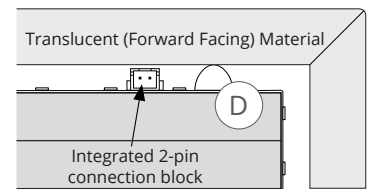
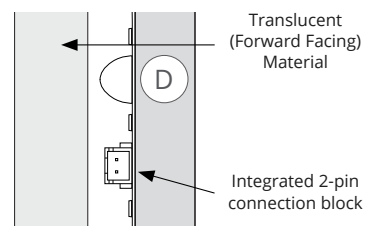

Figure 4
Figure 5
Rated for 400 lbs each, the domed protective bumpers (D) included with each Light Sheet have been engineered to bear the weight of translucent materials in horizontal applications and act as a safeguard in vertical applications so that the forward facing material does not harm the Light Sheet's integrated connection blocks or LEDs. Evo-Lite recommends using eight bumpers per Light Sheet (approximately six per square foot), spacing them evenly to distribute the weight of the forward facing material (see Figure 4) and to add a level of protection in vertical applications when the forward facing material will be positioned near the Light Sheet (see Figure 5). A rigid, non deforming mounting surface/substrate must be used with any weight bearing applications to avoid damaging the Auragami Light Sheet.